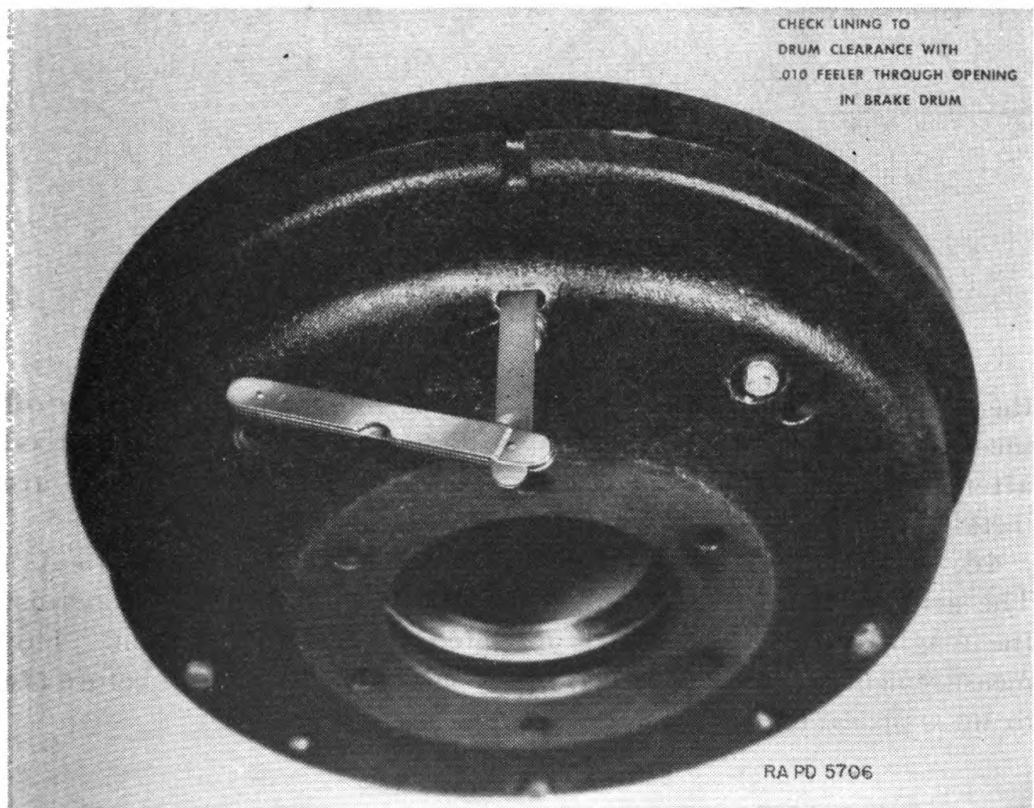
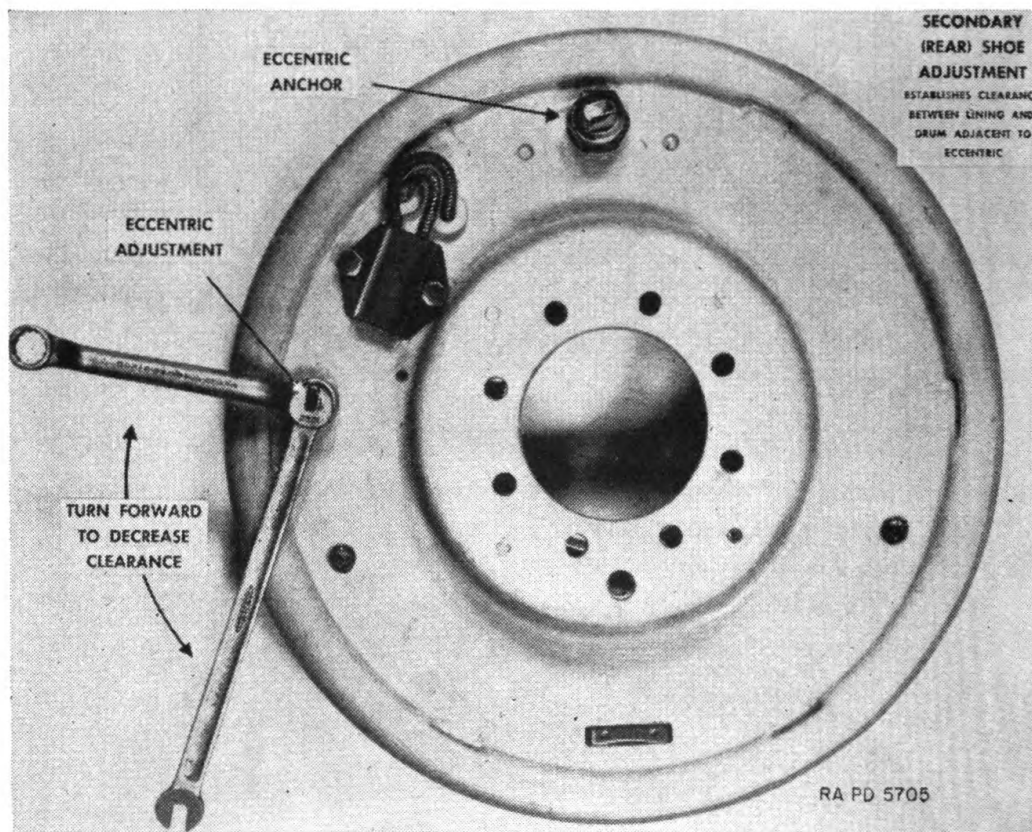
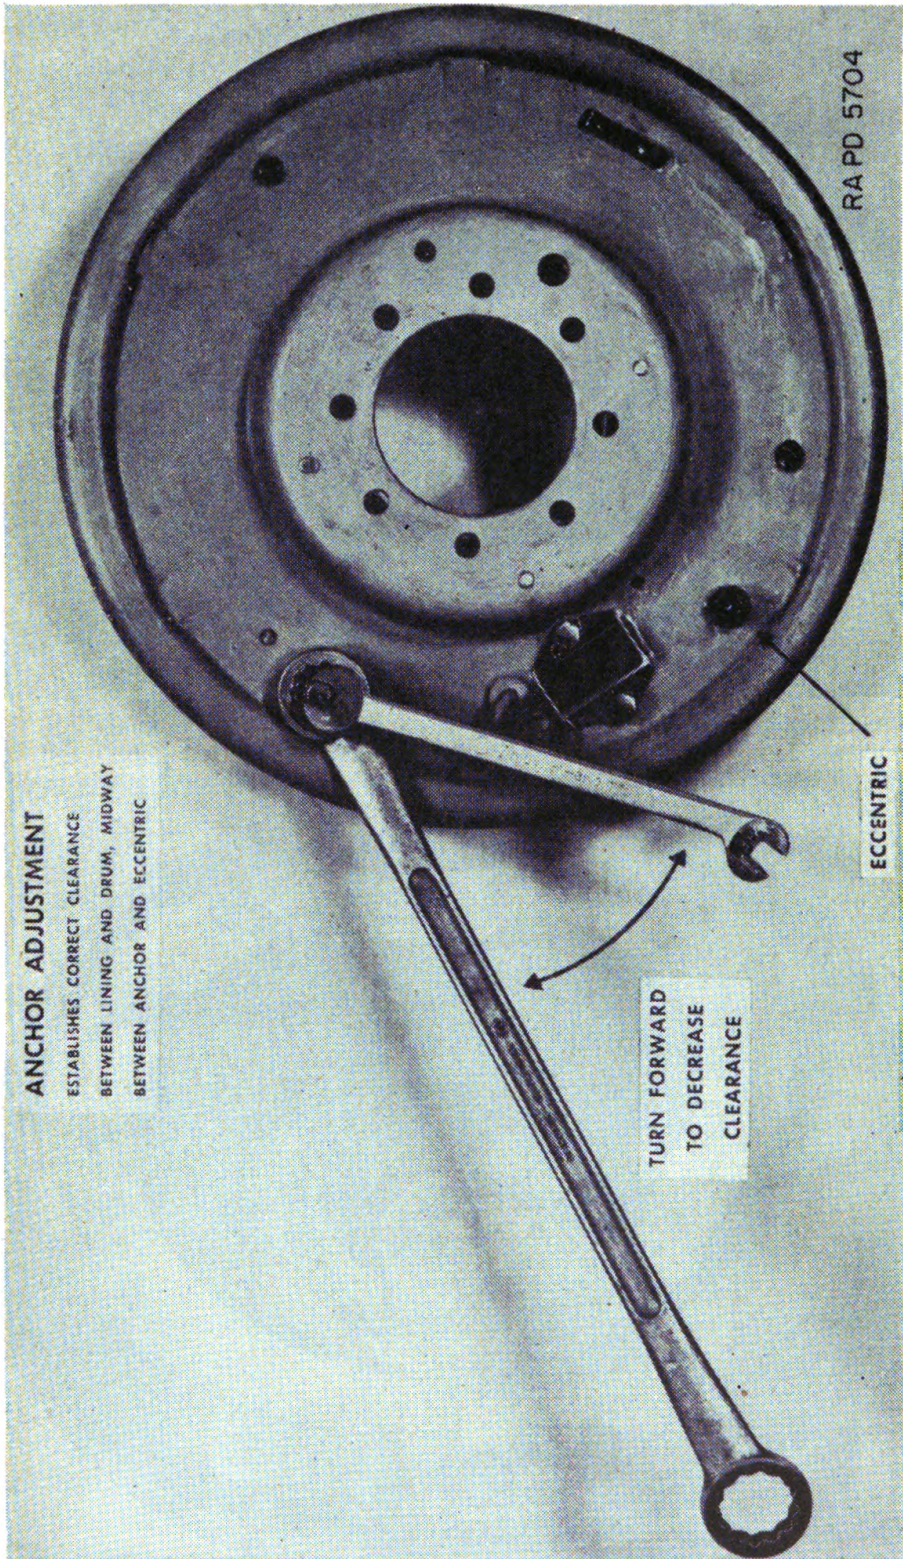

FIGURE 39.—Checking lining clearance, lever type electric brake.
FIGURE 40.—Secondary shoe adjustment, lever type electric brake.
FIGURE 41.—Anchor adjustment, lever type electric brake.
(1) An inspection hole is provided in the brake drum for inserting a 0.010-inch feeler gage (fig. 39). There should be a 0.010-inch clearance between the brake lining and brake drum at the point adjacent to the eccentric and also midway between the eccentric and anchor. If this condition does not obtain, loosen the eccentric lock nut slightly and turn the eccentric in the direction of the wheel rotation when moving forward to decrease the clearance, or in the opposite direction to increase the clearance (fig. 40). If, after adjusting the eccentric, the clearance at the point half way between the anchor and eccentric is not 0.010-inch, it will be necessary to adjust the anchor (fig. 41). The anchor is adjusted in exactly the same way as the eccentric. Through the adjustment of the anchor and eccentric it is easy to secure the 0.010-inch clearance which is required.